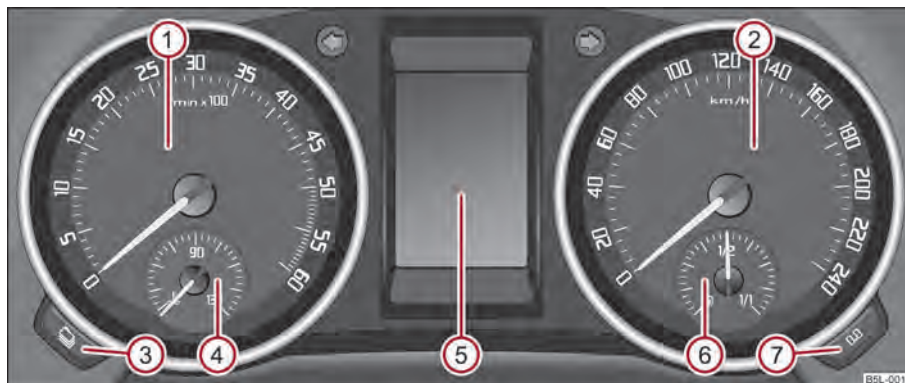

Fig. 2 Instrument cluster
The red zone of the rev counter scale ① ⇒ fig. 2 indicates the range in which the engine control unit begins to limit the engine speed. The engine control unit restricts the engine speed to a steady limit value.
The coolant temperature gauge ④ ⇒ fig. 2 operates only when the ignition is switched on.
The fuel gauge ⑥ ⇒ fig. 2 only operates when the ignition is switched on.
If you hold the reset button  $\Rightarrow$ fig. 2 pressed for about 1 second, the trip counter is set back to zero.
You can use the button  to display the remaining distance driven and the days until the next service interval $\Rightarrow$ fig. 2.
Reset the service interval displays by using the reset button  $\Rightarrow$ fig. 2 on the trip counter.